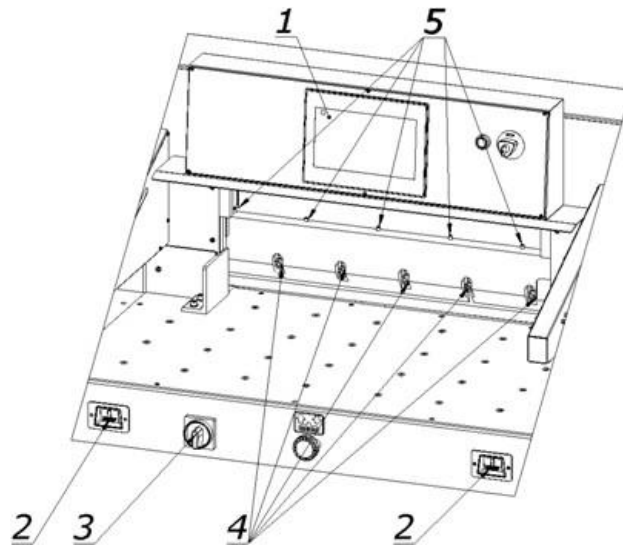

Figure 33.
9. Pressing the push buttons 2  (Fig. 33) at the same time, start the cutting cycle. The knife will stop in the lower position.
10. Switch off the power supply of the electrical system by turning the main switch knob 3 (fig. 33) to the "0" position
12. Remove (loosen) the fixing screws 4 (fig.33) so that the knife falls under its own weight on the base bar with its entire length.
13. Tighten the adjustment screws 5 (fig. 33) as far as they will go, so that the blade of the knife is cut into the base bar, approx. 0.3 mm.
14. Tighten the fixing screws 4 (figure 33)
15. Switch on the power supply of the electrical system by turning the main switch knob 3 (fig. 33) to position "I".
16. Turn off the "knife change" function on the programmer 1 (fig.33)
18. Turn off the power supply of the electrical system by turning the main switch knob 3 (fig. 33) to the "0" position
20. Turn on the power supply of the electrical system by turning the knob of the main switch 3 (fig.33) to position "I"